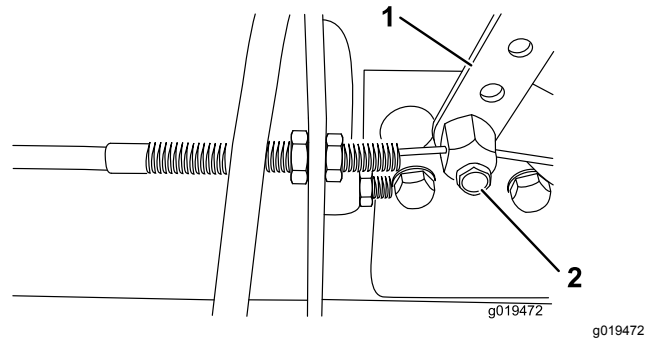

Figure 53
2. Loosen the throttle cable connector on the lever arm at the injection pump (Figure 53).